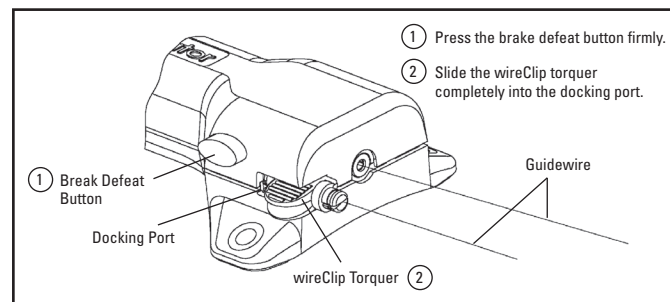

Figure 5. Brake Defeat Button and wireClip Docking Port
- The docking port may be used to maintain the brake in the defeated position. While depressing the brake defeat button, slide the wireClip torquer/guidewire combination completely into the docking port (see Figure 5). The brake defeat button will remain depressed. **Do not use this feature during ablation.**